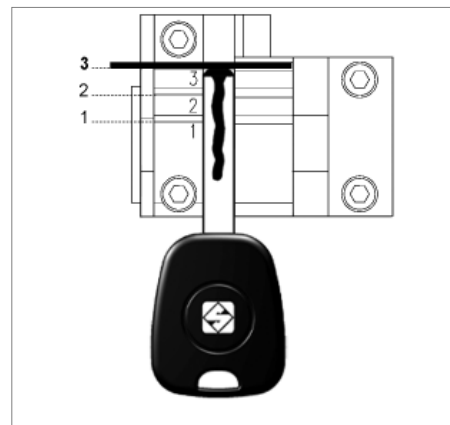

Fig. 27
- 1-2-3: for keys with tip stop (Fig. 27)